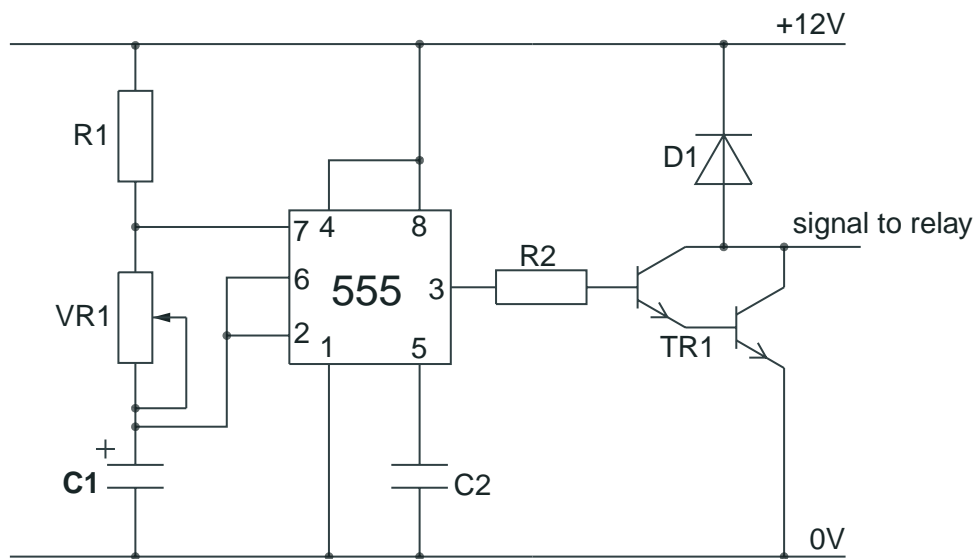

Fig. 8
- (b) A suitable circuit for the delay is shown in Fig. 8.